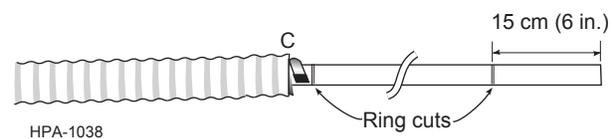

Figure 21
**5.11** Ring cut the inner jacket at the end of the exposed armor and 15 cm (6 in.) from the end of the cable (Figure 21). Use care to avoid damaging the aramid yarn strength elements under the jacket.